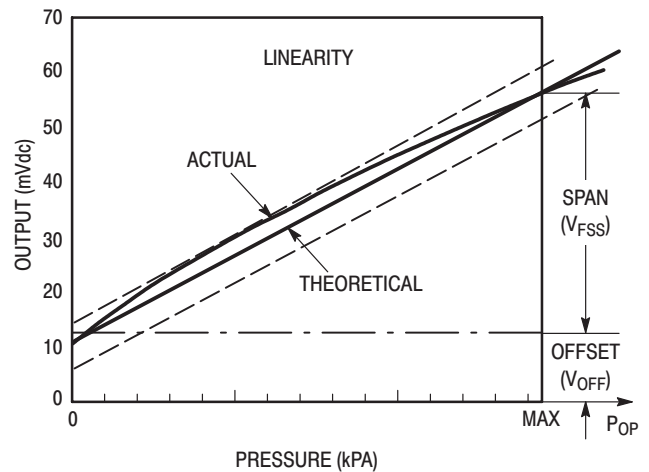

Figure 3. Linearity Specification Comparison
Linearity refers to how well a transducer's output follows the equation:  $V_{out} = V_{off} + \text{sensitivity} \times P$  over the operating pressure range (see Figure 3). There are two basic methods for calculating nonlinearity: (1) end point straight line fit or (2) a least squares best line fit. While a least squares fit gives the "best case" linearity error (lower numerical value), the calculations required are burdensome.